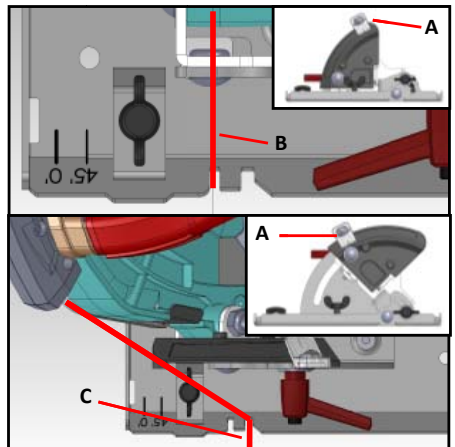

Fig.9
2. The laser will change according to the angle plate for guiding the cut. Example: the bevel indicator at (A)  $0^{\circ}$  the laser is at the notch (B), if the bevel indicator at  $45^{\circ}$  then laser is at the notch (C) Refer to Fig.9 (other angles are without reference).